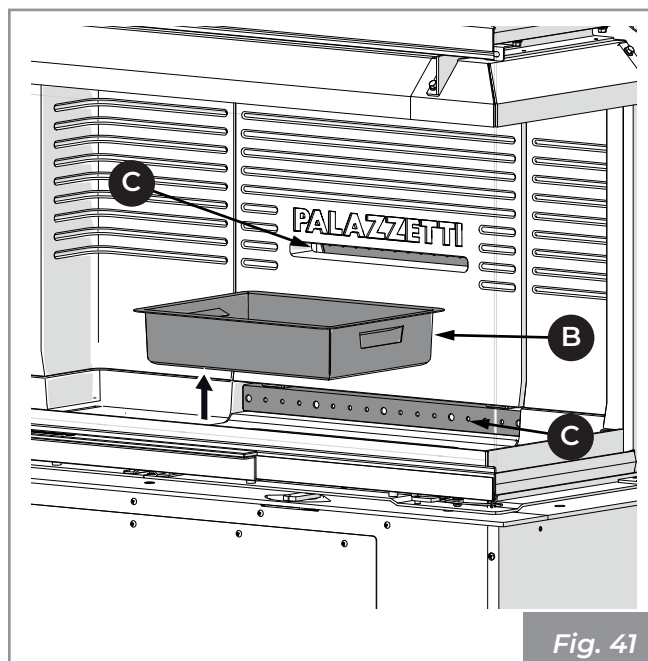

Fig. 41
- 2) Extract the ash drawer (B) from the base and vacuum out any ash deposited in the compartments below (Fig. 41).
- 3) Vacuum the front and rear holes (C) of the combustion air distributor in order to avoid any accumulation of ash (Fig. 41).